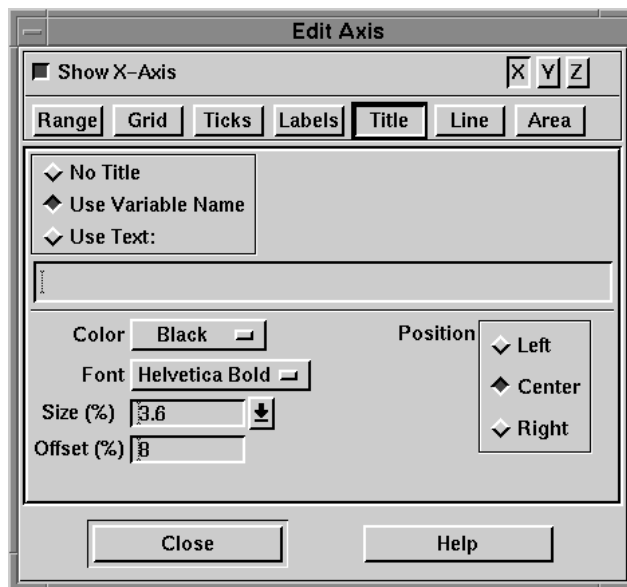

Figure 17-13. The Title page of the Edit Axis dialog.
5. (Use Text only) If you select Use Text, enter the desired axis title in the text field immediately below the set of option buttons, as shown in Figure 17-13.